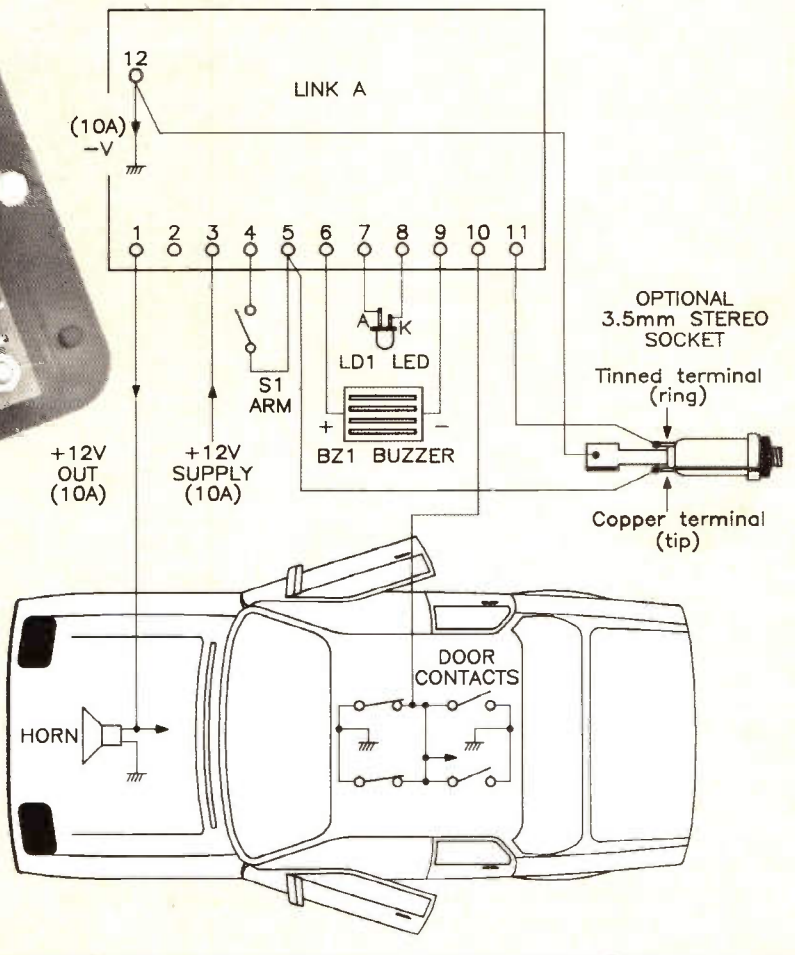

Figure 5. Link A wiring.
All the information required to help you with soldering and assembly techniques, should you need it, can be found in the Constructors' Guide included in the kit (also separately available as stock code XH79L). Removal of a misplaced component can be fairly difficult without causing too much damage, so *please* double-check each component type, value and its polarity where appropriate, before soldering! The printed circuit board (PCB) has a legend to assist you in correctly positioning each item, see Figure 4. Install, solder and trim the excess leads from all the components commencing with the resistors and capacitors, and finishing with the IC sockets, diodes and transistors last. Only after all other components have been fitted do you then carefully insert the relevant ICs into their sockets making sure to correctly align the pin number 1 marker at one end of each DIL package with the white block on the legend. All the ICs in this design are CMOS types which can be at risk from static electric charge during handling, so do not remove them from their protective packaging until they are needed and handle them carefully when you do so. The off-board items LD1, BZ1 and S1 can be temporarily soldered to the appropriate terminals for testing, see Figure 5.
1. If the horn has one of its terminals connected directly to earth (vehicle body) link A must be fitted, see Figure 5.
Make sure that you have the correct link (A or B) fitted and with reference to Figure 5 or 6 proceed as follows:
4. Double check which horn wiring is correct for your type of vehicle, see Figures 5 and 6. Then connect a 10A insulated wire from P1 to the horn as shown.